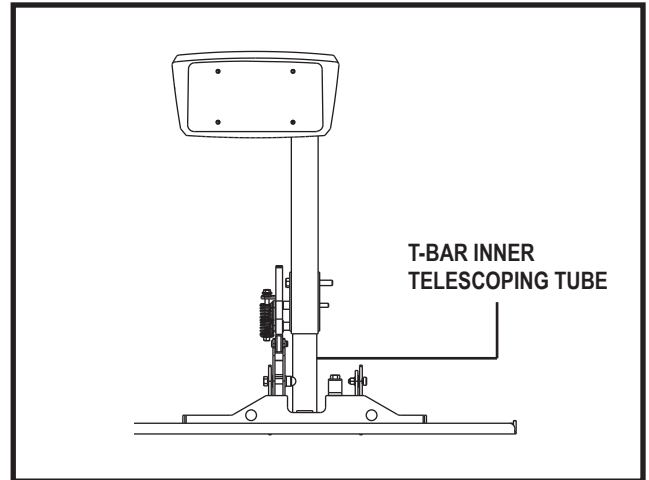

Figure 25. Lift Frame Maintenance
- Clean and lubricate the T-bar inner telescoping tube. Use only all-weather lithium grease. **See figure 25.**